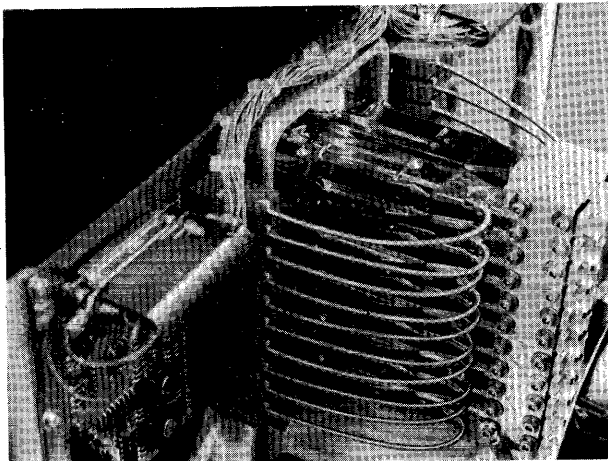

Figure 5-74. Read/Write Head Plugs
- c. Remove cable plug of head to be replaced (see Figure 5-74).